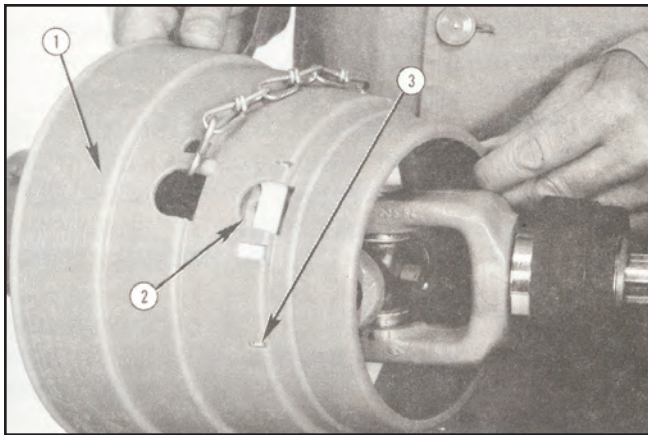

FIGURE 92
5. Reinstall double yoke cone (1) over large bearing ring. Insure zerk is aligned with cone cut out (2). Check that 6 holes for previously removed Phillips screws are aligned with recesses (3) provided and reinstall screws. See Figure 92 on Page 40.